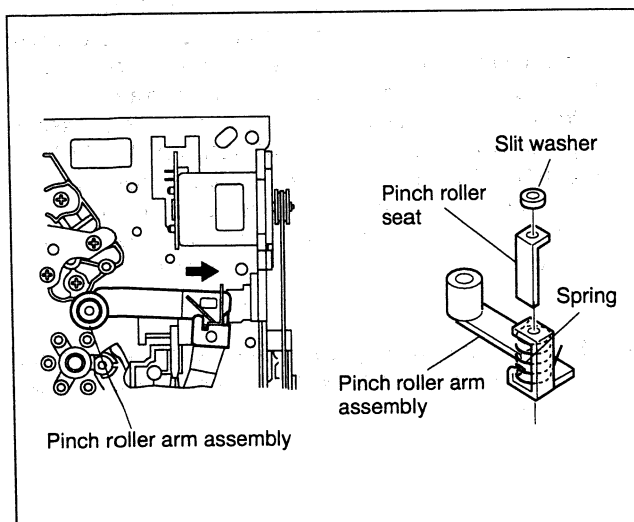

Fig. 2-2-10
- (1) Remove the spring from the hook of the press lever.
- (2) Remove the slit washer and remove the pinch roller seat.
- (See Fig.2-2-10)
- (3) Remove the pinch roller arm assembly by pulling it up.